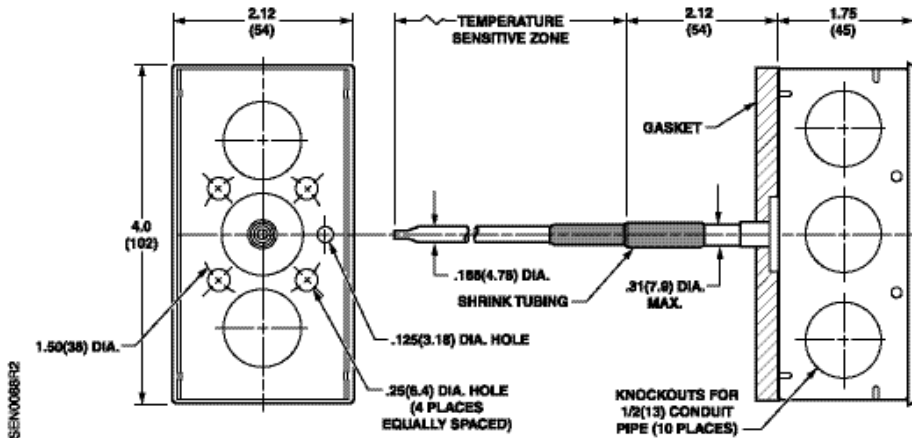

Figure 3. Platinum RTD Duct Averaging Temperature Sensor Mounting Hole Locations.
1. Mark the location of four holes on the duct at the place where the unit is to be mounted (see Figure 3). Mark the location in the center of the four mounting holes for a one-inch clearance hole.